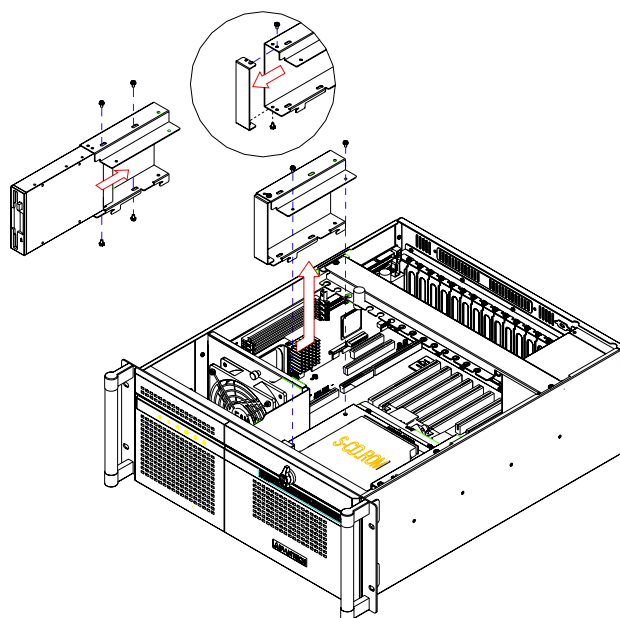

Figure 2.7 Installing 3.5" HDD or FDD
2. Insert the disk drive into the proper location in the bracket and secure them with the screws provided. (see Figure 2.7)